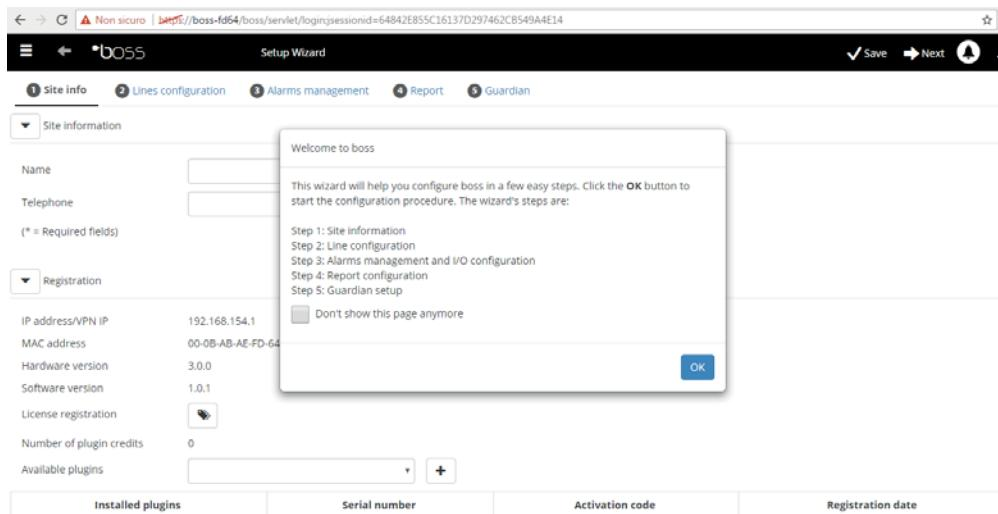

Fig. 3.a
This screenshot shows the 'Site info' configuration step of the BOSS Setup Wizard. The 'Name' field is filled with 'CAREL boss'. The 'Telephone' field is empty. Below these, there is a note '(* = Required fields)'. The 'Registration' section contains the same data as in Fig. 3.a: IP address/VPN IP (192.168.154.1), MAC address (00-0B-AB-AE-FD-64), Hardware version (3.0.0), Software version (1.0.1), License registration (checkbox checked), Number of plugin credits (0), and Available plugins (dropdown menu). The bottom section of the page includes tabs for Installed plugins, Serial number, Activation code, and Registration date.